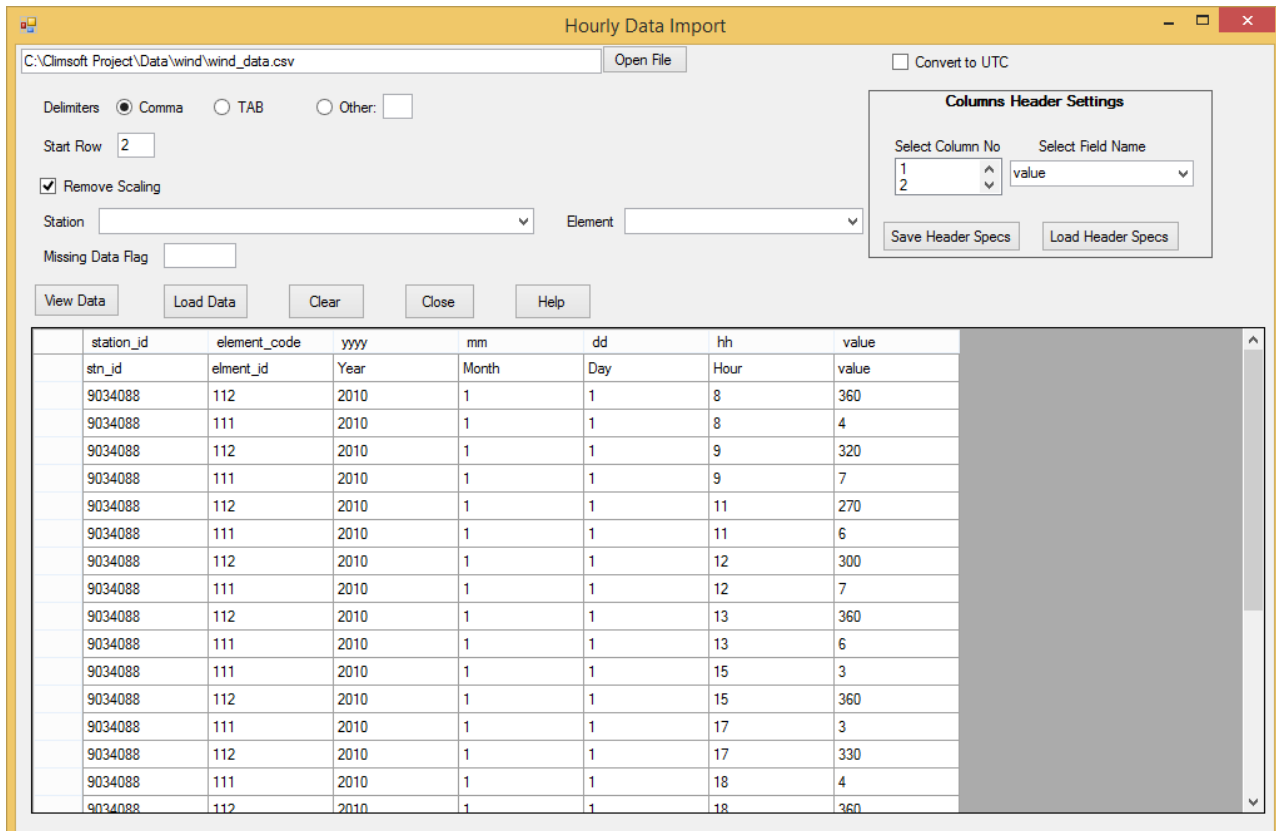

Figure 61: Columns Header Settings
- (iv) Set the column headers by matching each data column by its corresponding field name. When this process is completed you will have the dialog shown in *Figure 61*,